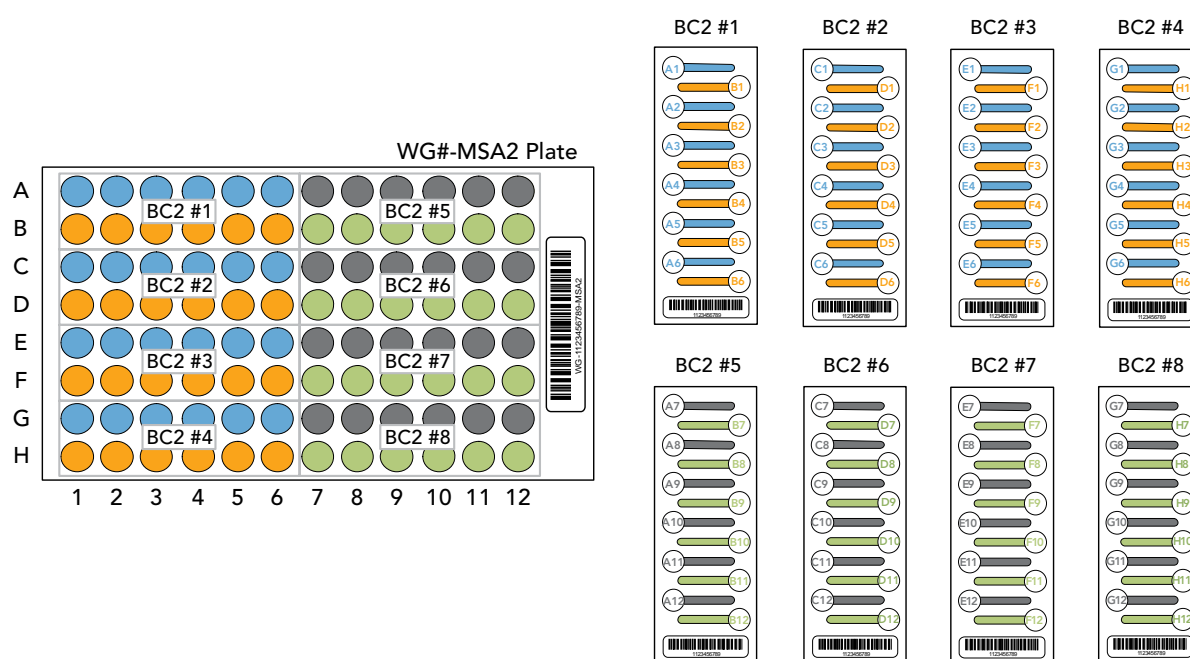

Figure 77 Distributing Sample to MSA2 Plate
6. Using a multi-channel precision pipet, dispense 12 μ l of each DNA sample onto the appropriate BeadChip stripe. Follow the alternate loading pattern on the lab tracking worksheet (also shown in Figure 77):